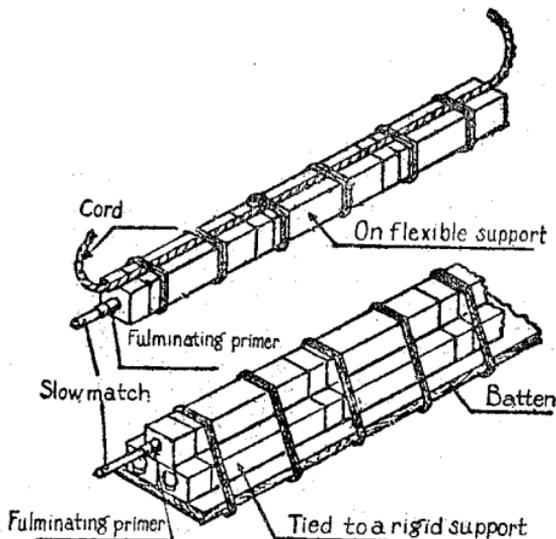

FIG. 92.—Extended charges.
2. *Extended charges*. (fig. 92).—A succession of charges placed end to end on a narrow board.